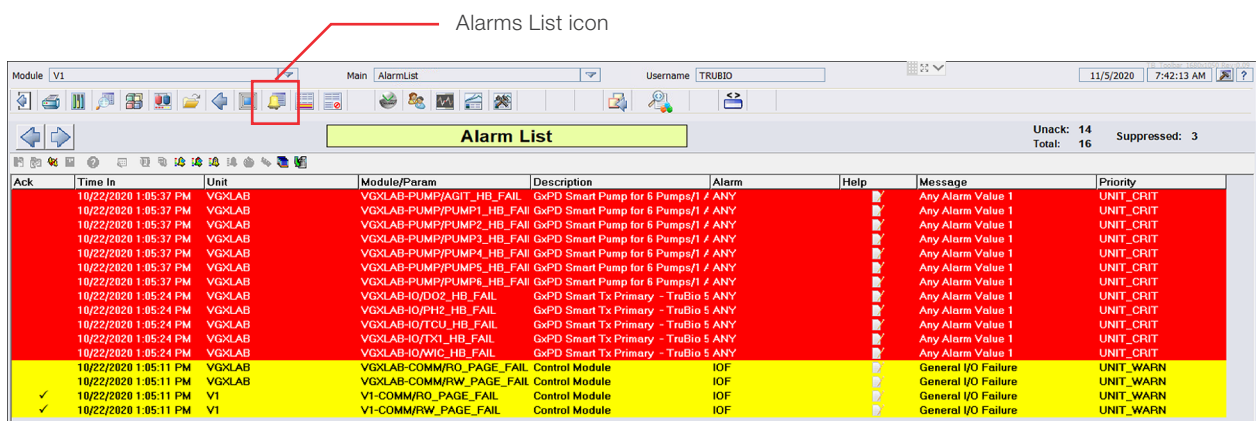

Figure 4.8. Alarm list.
1. Click the **Alarm List** button in the toolbar, to open the list of alarms (Figure 4.8).